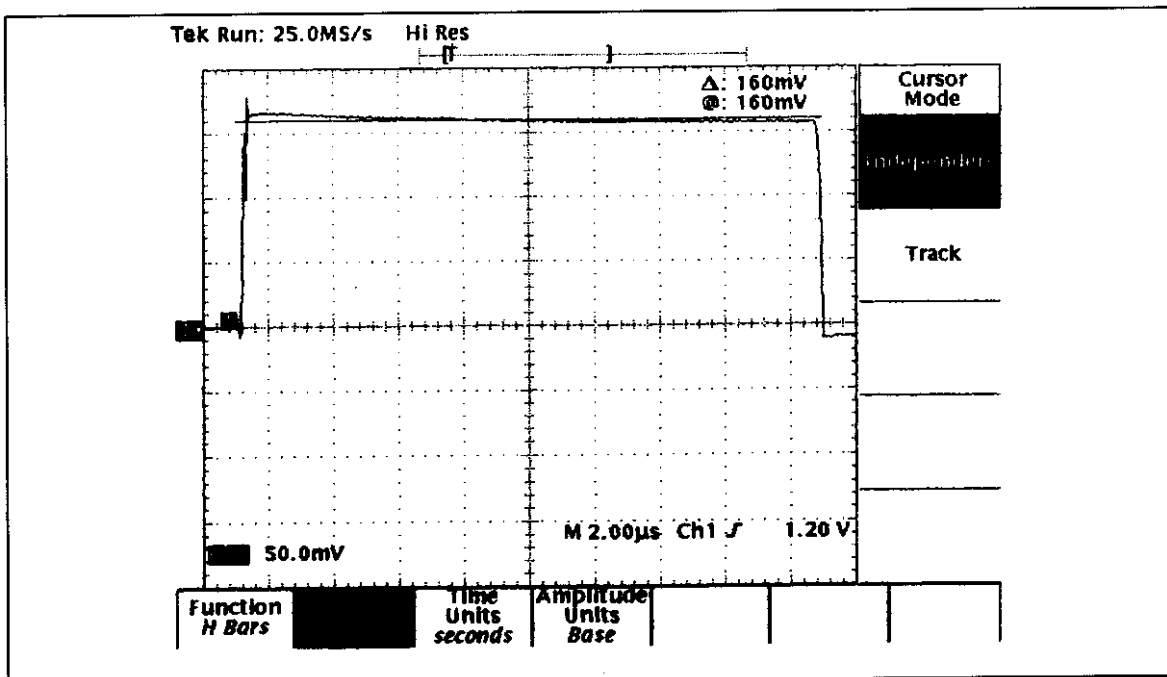

Figure 48. Forward Power Sample Waveform
- j. At the oscilloscope, observe the waveform. It should appear similar to the waveform in Figure 48.